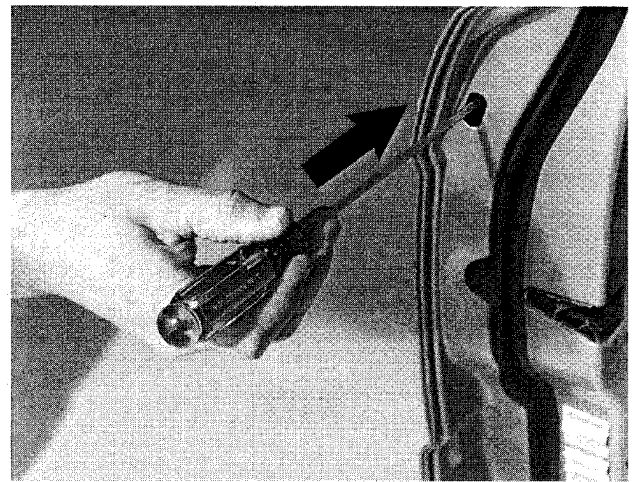

Fig. 13. Insert screwdriver into access hole and push locking plate forward (arrow) to release exterior handle trim.
4. Pry out access plug in end of door. Use screwdriver through access hole to slide exterior trim locking plate into released position. See Fig. 13. Remove door handle exterior trim piece.